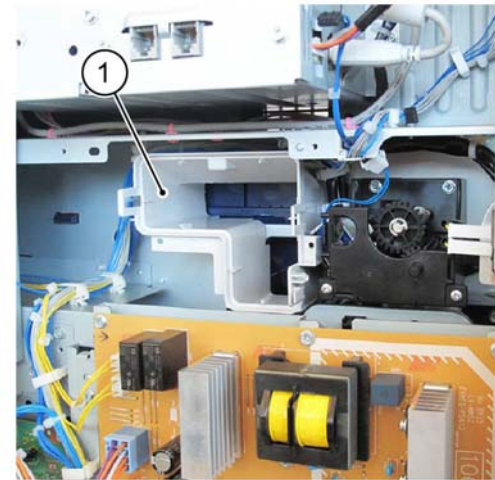

Figure 2 Fuser rear duct B removal
3. Remove the fuser rear duct B (1), Figure 2.